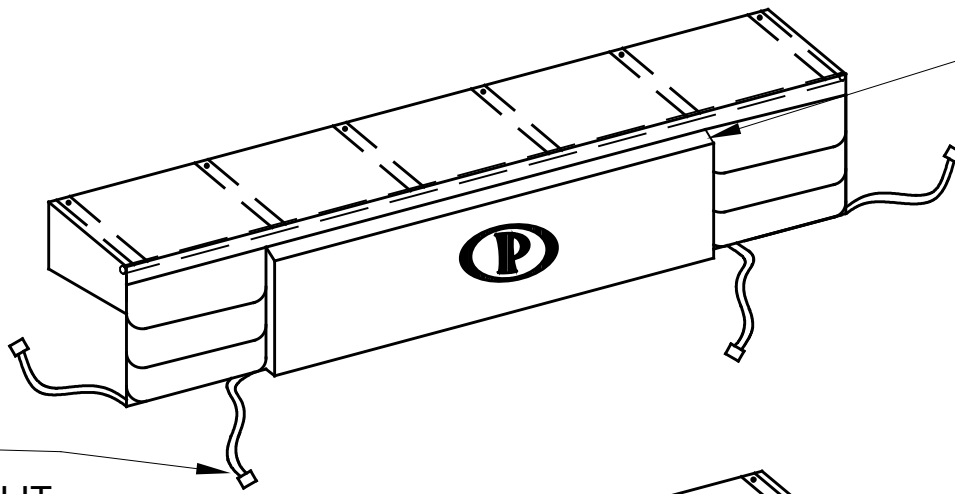

**FIGURE 2:**
2. Attach Velcro strip on Face Pad to matching velcro strips on inside & face of the side pads. Pull the flap to backboard and nail it in place with the roofing nails provided (Figure 2).